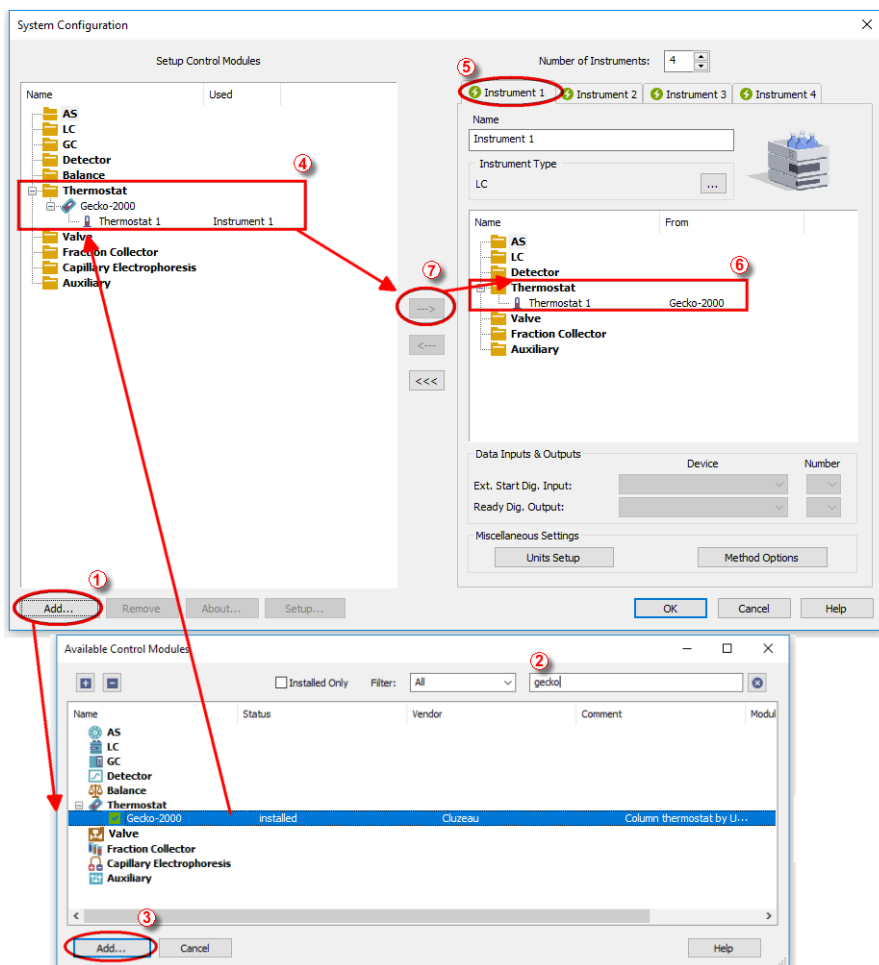

Fig. 3: How to Add Cluzeau Gecko 2000
- Press the **Add** button (1 on Fig. 3 on pg. 4.) to invoke the *Available Control Modules* dialog.
- You can specify the search filter (2) to simplify the finding of the driver.
- Select the correct item and press the *Add* (③ on Fig. 3 on pg. 4.) button. Each device with already created UNI profile should have its own item named accordingly in the *Available Control Modules* dialog.